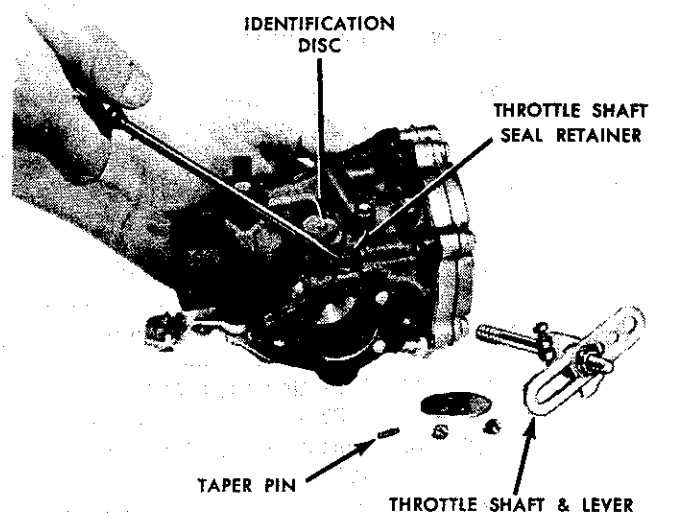

FIG. 4
4. Remove throttle shaft seal retainers and seal, as illustrated in Fig. 4.